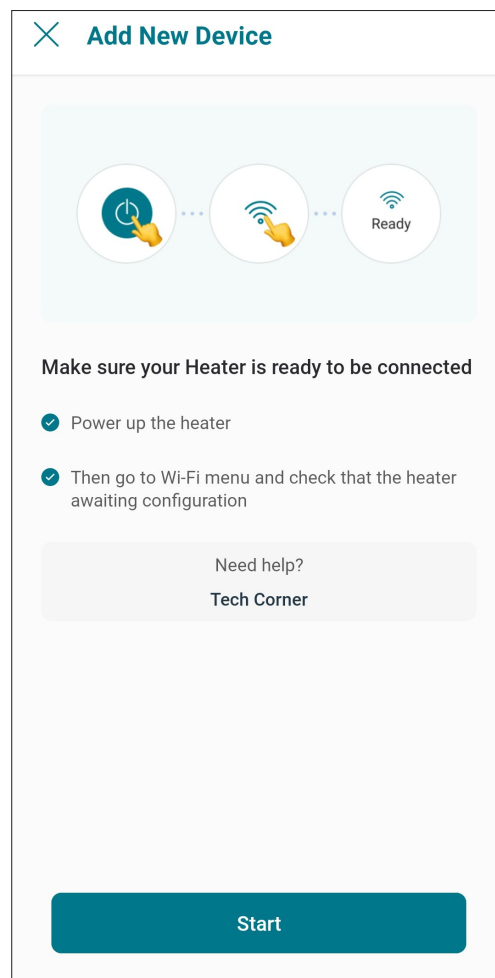

Figure 79. Check your Device
2. "Check your Device" screen will appear. Ensure to have Crosswind V heater powered and Wi-Fi signal available in the area, then press "Start" button. See Figure 79.